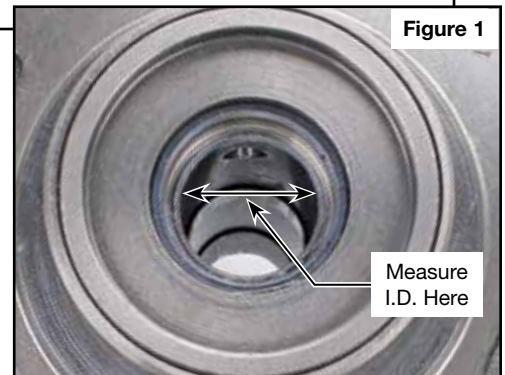

Figure 1
- c. Measure inside diameter of bore (**Figures 1 & 2**). Bore will measure about .916–.917" where indicated.